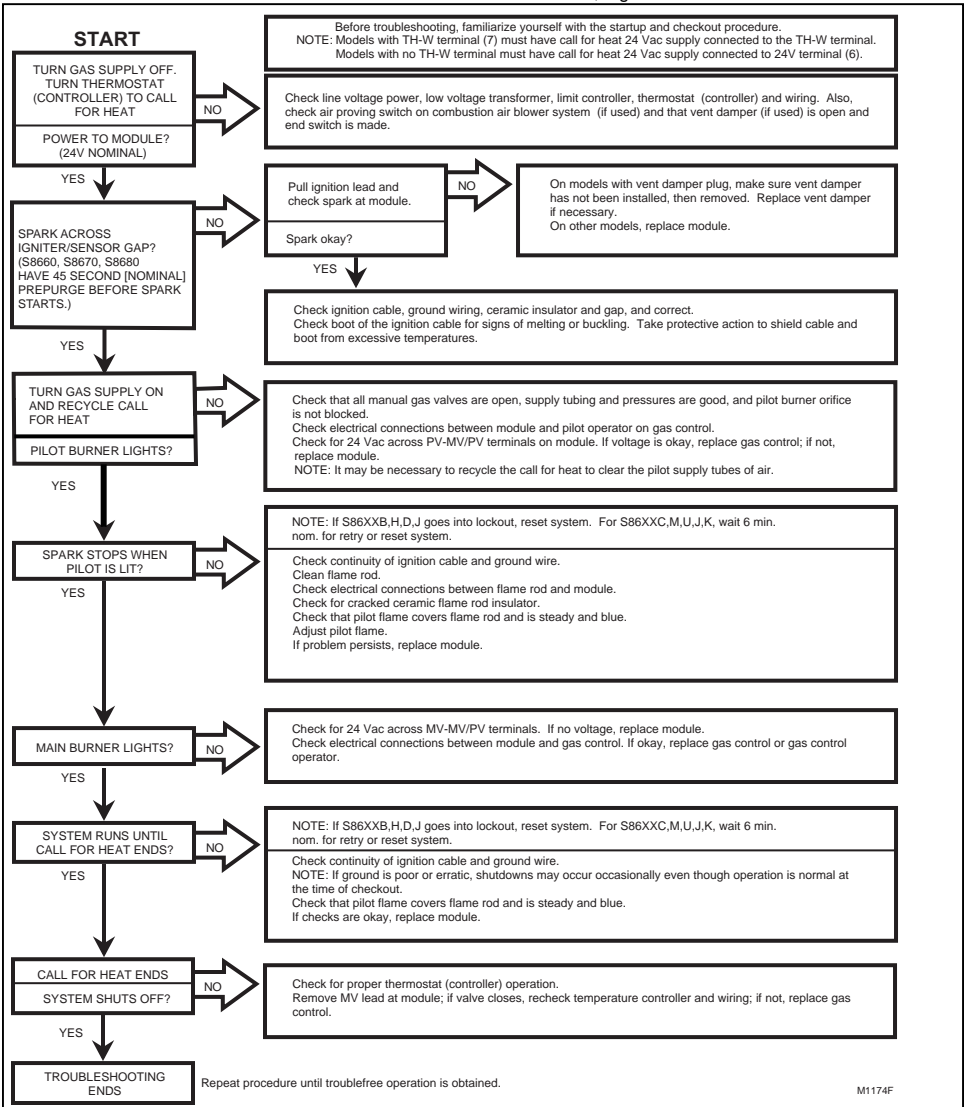

Fig. 14—S8600, S8610 troubleshooting guide.
Perform the checkout on page 11 as the first step in troubleshooting. Then check the appropriate troubleshooting guide (Fig. 14 or 15) and the schematic diagram (Figs. 16-17) to pinpoint the cause of the problem. If troubleshooting indicates an ignition problem, see Ignition System Checks below to isolate and correct the problem.
- If main burner doesn't light or if main burner lights but system locks out, check module, ground wire and gas control as described in appropriate troubleshooting chart, Fig. 14 or 15.